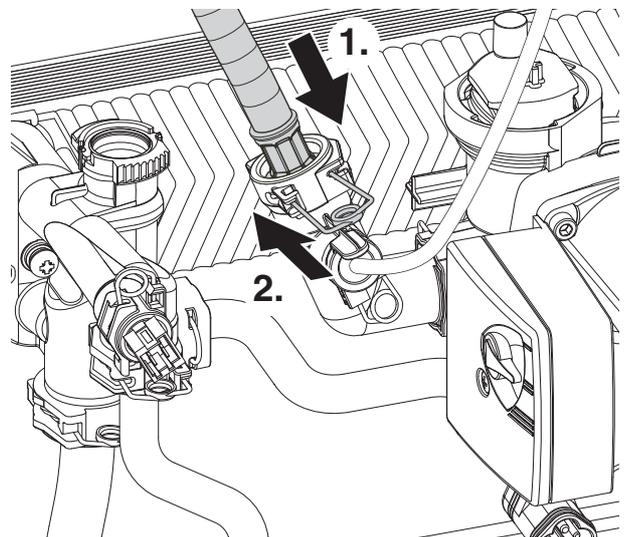

Fig. 34 Expansion vessel hose connection
1. Refer to figure 34 and insert the expansion vessel flexible pipe into the fitting on the pump.